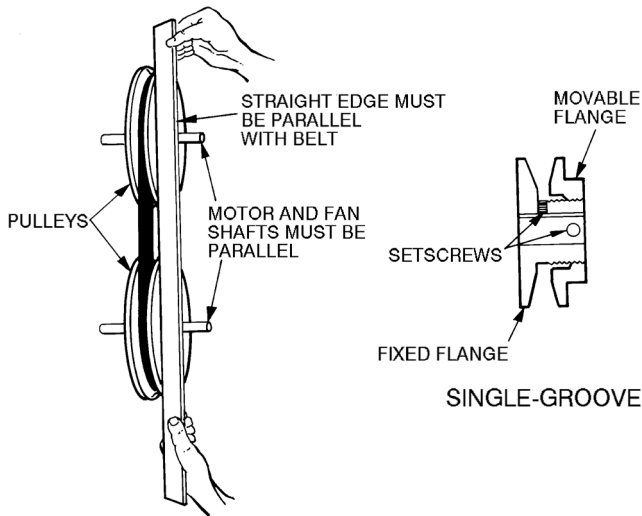

Fig. 7 — Fan Pulley Adjustments
- Loosen movable pulley flange setscrew (Fig. 7).
Shut off unit power supply. Lock out power supply and tag disconnect locations. Loosen fan motor pulley setscrews and slide fan pulley along fan shaft. Make angular alignment by loosening motor from mounting bracket (see Fig. 7). Check alignment with a straightedge.